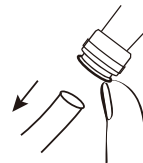

Fig.9
3. Pull out the PE pipe outward with continuous force(Fig.9).